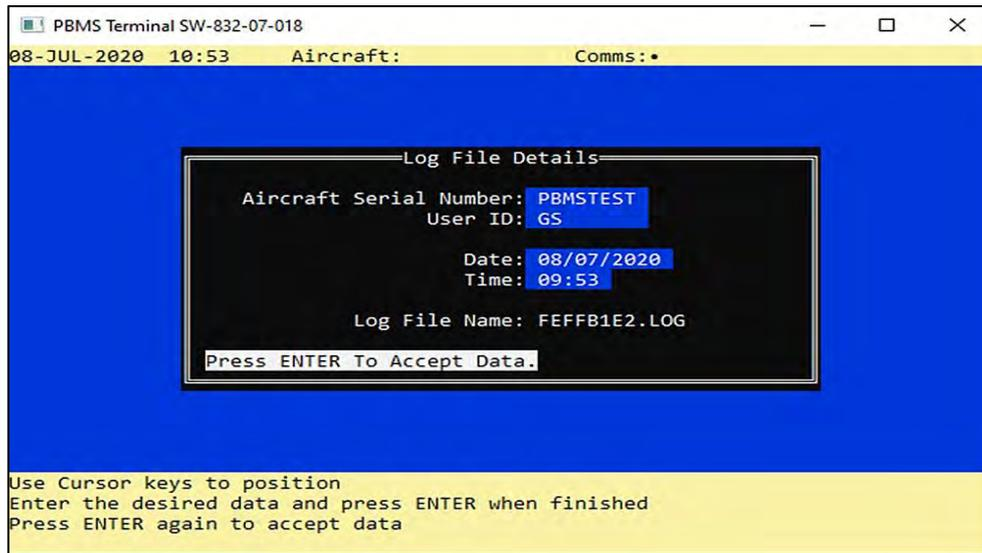

Figure 3-8 Log file name
- (6) Enter the Aircraft Serial Number and the User ID (Your Initials) and press <Enter>.
- (7) The PBMS Terminal will show the log file name in which the Maintenance Session Record will be stored (**Ref Fig 3-8**) Press <Enter> to accept the Data.